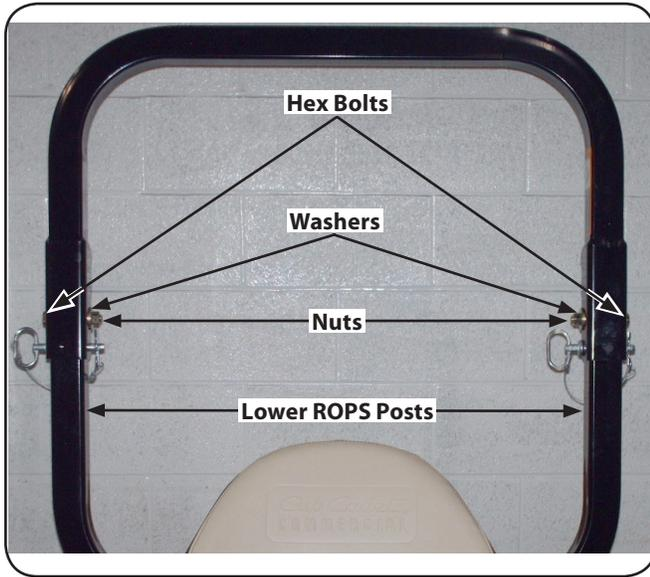

Figure 3-3
- Install the upper ROPS section onto the lower ROPS "posts". Install the (1/2-13 x 3.25) HHCS bolts, nuts and washers. See Fig. 3-3.